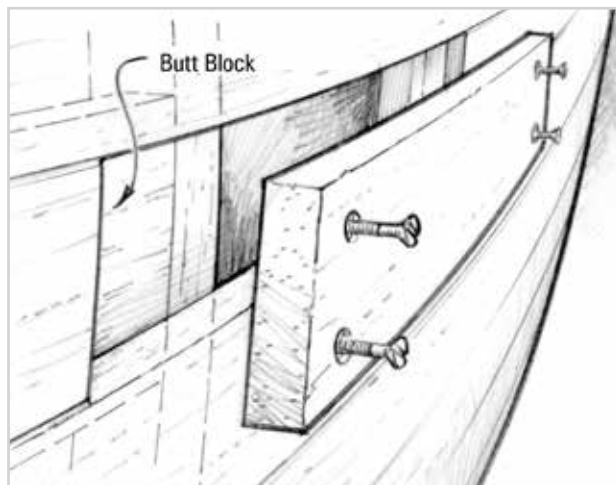

Figure 5-7 Replace a section of plank using butt joints.
2. Cut a replacement piece of wood for the opening and a piece for a backing plate (Figure 5-7). A backing plate will be required behind each butt joint unless the joint falls on a frame. When the repair section falls between frames, the backing plate should run from frame to frame. When replacing longer sections of planking, a backing plate is only required at the ends.